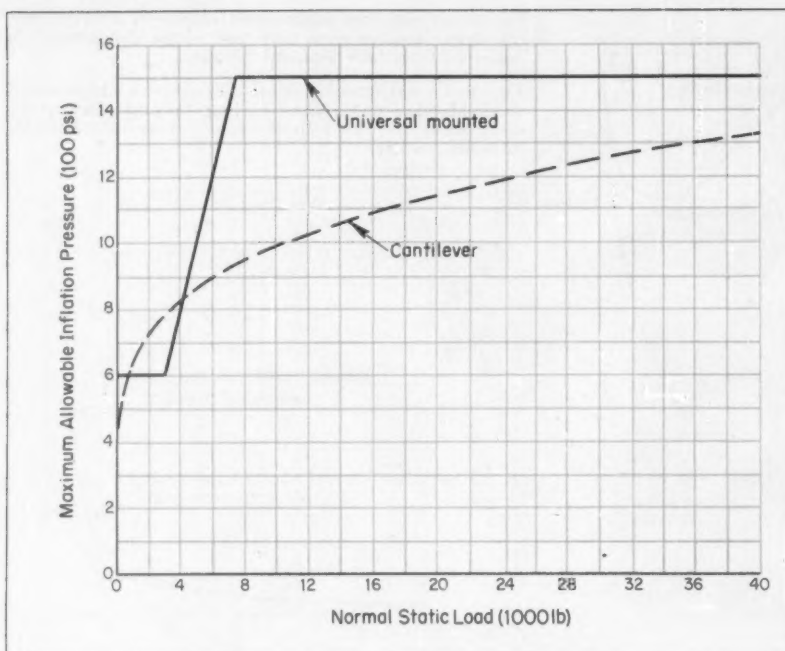

Fig. 4—Maximum allowable inflation pressure under normal static load for cantilever and universal-mounted types of air-oil shock absorbers.
**Inflation Pressure:** The inflation pressure under normal static load should be 4 times the pressure when the strut is fully extended under no load and  $\frac{1}{3}$  of the pressure when the strut is fully compressed statically. Fig. 4 gives the maximum inflation pressure under normal static load for cantilever and universal-mounted struts.
The relationship between static inflation pressure  $p_s$  and piston diameter  $D$  is given in the specification previously mentioned. It is possible to substitute  $p_s$  and  $D$  from Fig. 4 into Equation 5 to obtain load  $P_s$ . However, the load is usually the starting point in design and both  $p_s$  and  $D$  are unknown. From Fig. 4 and Equation 5 the following relationships can be established:
Fig. 5 shows these relationships graphically. Use of this chart reduces design time by avoiding trial-and-error determinations. Since the plot gives only the minimum piston diameter, the next larger standard seal size should be selected as the final diameter. When the diameter is determined, the required inflation pressure can be readily found from Fig. 4.
2. Pressure  $p_s$  is related to  $D$  by Fig. 4.
diameter it can be used as the final piston diameter. Then, from Fig. 4, the inflation pressure corresponding to a 5000-lb normal static load is 1020 psi.